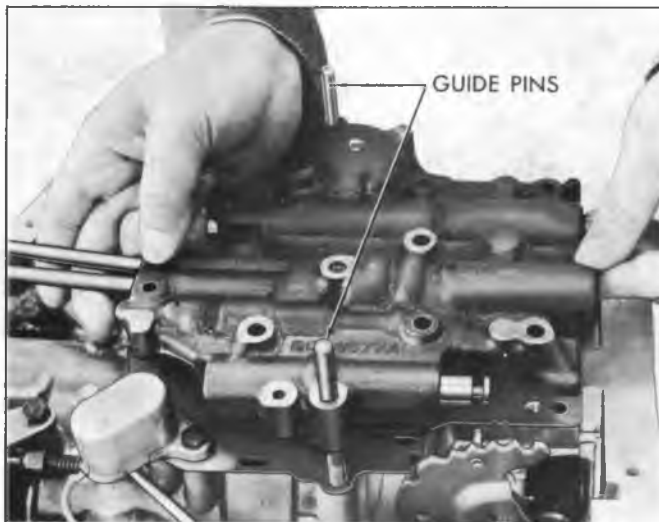

Fig. 151T--Installing Control Valve Assembly and Governor Pipes
1. Install two control valve assembly attaching bolts with heads cut off as guide pins as shown in figure 151T.
3. Install control valve assembly and governor pipes on transmission, while carefully aligning the governor feed pipe over the governor screen (fig. 151T). Make certain gasket and spacer do not become mispositioned.